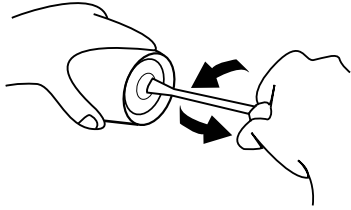

Figure 3
1. Unscrew the filter holder using a screwdriver or coin. Pull out filter holder. (See Figure 3)